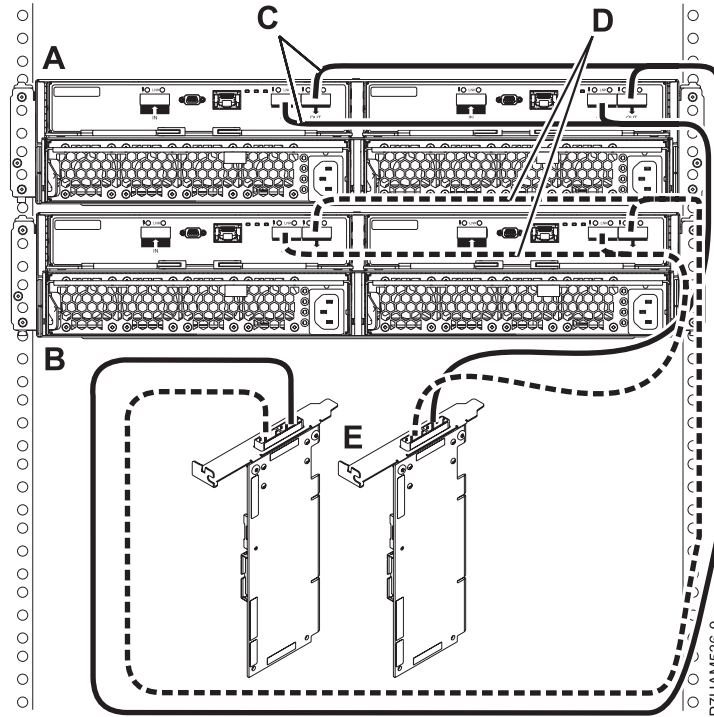

Figure 32. Mode 1 connection of two 5887 disk drive enclosures by using YO cables to a SAS adapter pair
- i. Perform the mode 1 connection of two 5887 disk drive enclosures (**A and B**) by using YO cables (**C and D**) to a SAS adapter pair (**E**) as shown in Figure 32 on page 29.